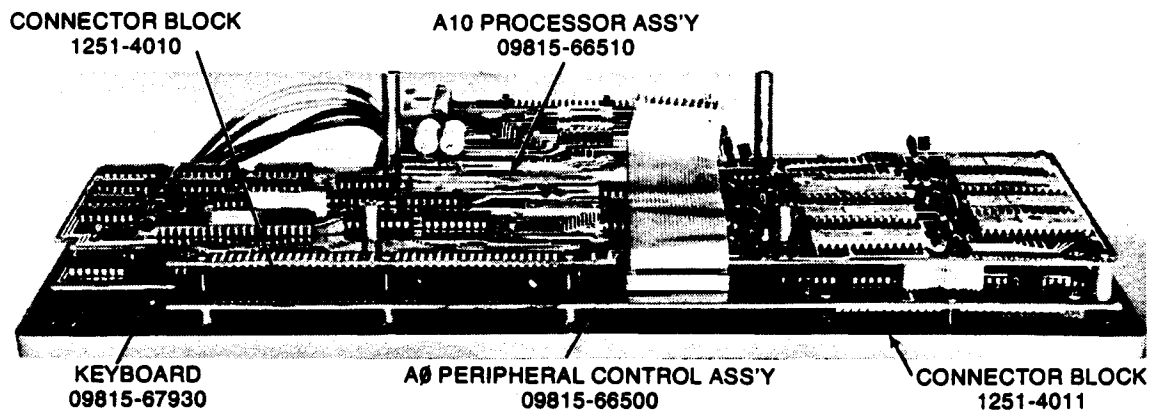

Figure 2-2. Removing the Processor Assembly
The processor is attached to the keyboard assembly. 5 long screws and 1 short screw hold the A10 Processor assembly to the keyboard assembly. Note that a connector block (see Figure 2-2) is positioned between the A10 Processor and the Peripheral Control Assembly (A0). This block must be correctly positioned when installing the A10 assembly.
- Remove the screws that hold the A0 assembly to the keyboard. Note that a connector block (see Figure 2-2) is positioned between A0 and the keyboard.
When putting the PC assemblies together, don't forget to put the connector blocks in between the assemblies; as shown in Figures 2-2 and 2-3.